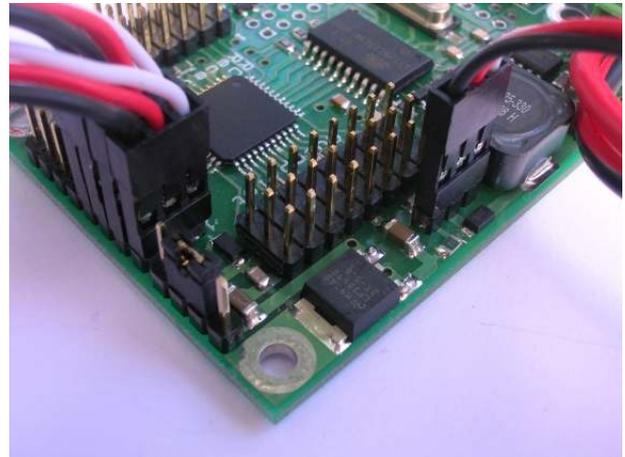

Fig. 9: Showing the power jumpers set for redundant operation and the external power cable
3. Set the power jumpers on the Failsafe board as shown in figure 9 (link the middle two pins together).